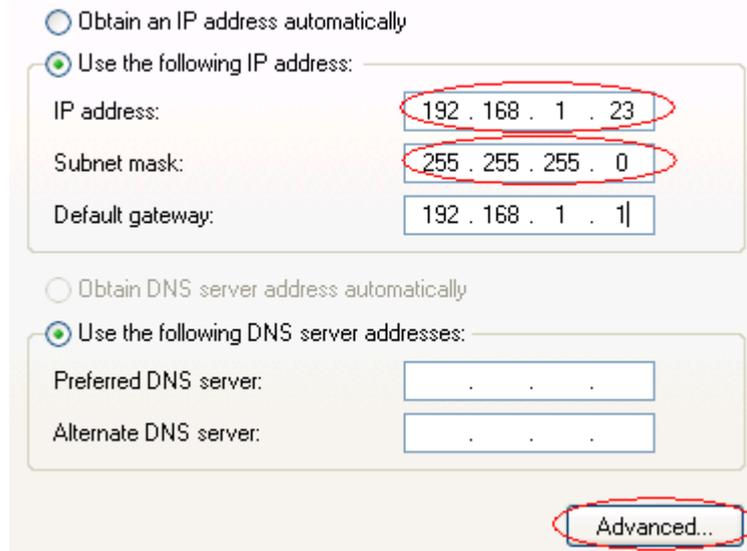
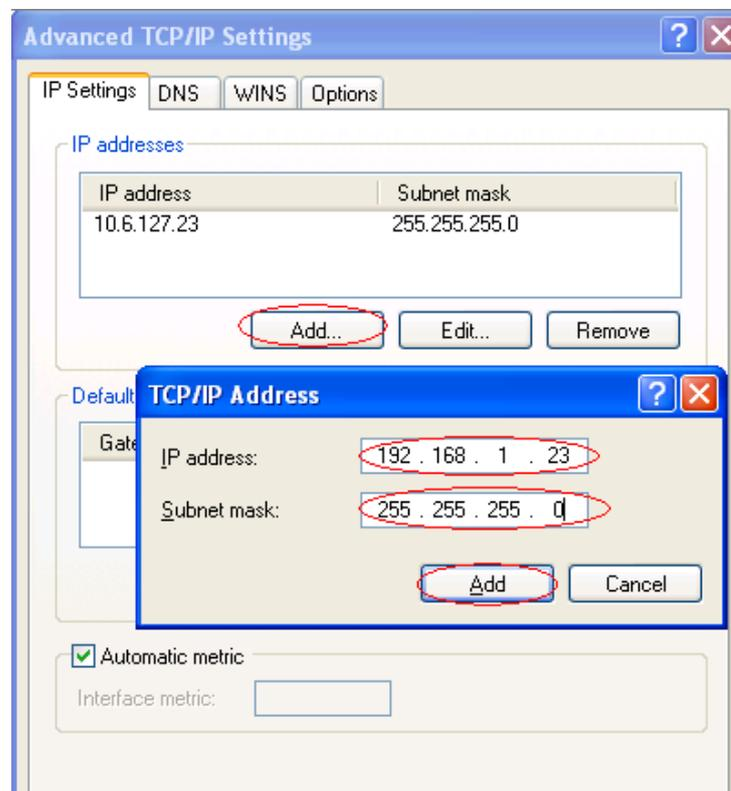

Figure 14. Change IP-address
Figure 15. Create alias
5. If you want to connect to the unit using PC/Laptop you can just change an IP-address on the Ethernet adaptor to some address from 192.168.1.0/24 network (e.g. change "IP-address" field to "**192.168.1.23**" and "Subnet mask" to "**255.255.255.0**"). After that click **OK** and move to step 7. See Figure 14
6. If you are in a LAN and you do not want to change your primary IP-address so you could keep LAN connectivity, you can assign an alias. In order to do that, press "Advanced..." button (Figure 14). In "Advanced TCP/IP Settings" click "Add" and put alias IP-address and mask (e.g. "192.168.1.2" and "255.255.255.0" correspondingly). See Figure 15. Click **OK** in all windows opened in the described procedure.